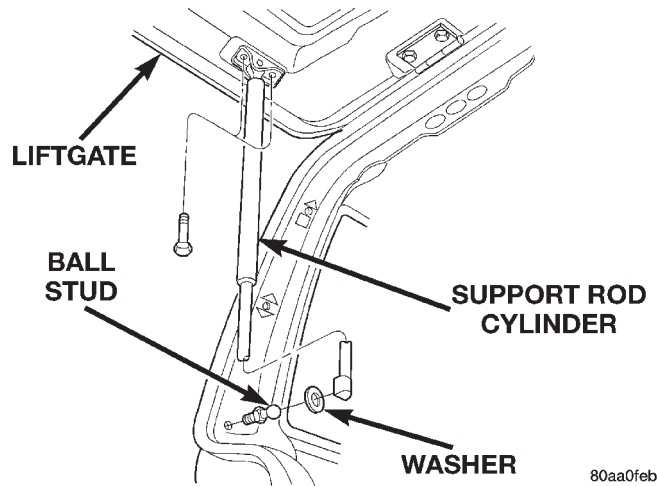

Fig. 90 Liftgate Support Rod
- (1) Open the liftgate.
- (2) Support the liftgate in the open position.
- (3) Remove the clip attaching the support rod to the ball stud.
- (4) Disconnect the support rod from the ball stud.
- (5) Remove the bolts attaching the support rod to the liftgate (Fig. 90).
- (6) Separate the support rod from the liftgate.